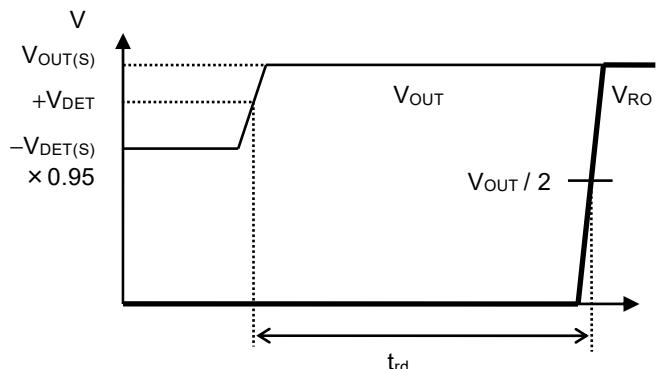

Figure 4 Release Delay Time
*3. The time from when V_{OUT} exceeds $+V_{DET}$ to when the RO pin output inverts (Refer to Figure 4). This value changes according to the release delay time adjustment capacitor (C_{DLY}).